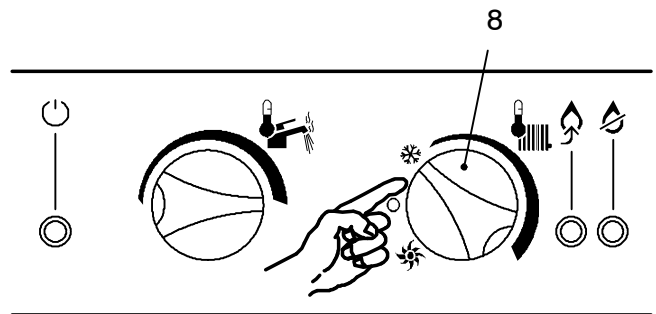

fig. 7.6
- 2 Make sure that the function selector 8 is set to the position in fig. 7.6 and that the timer selector switch and room thermostat, if fitted, is set to "demand heat".